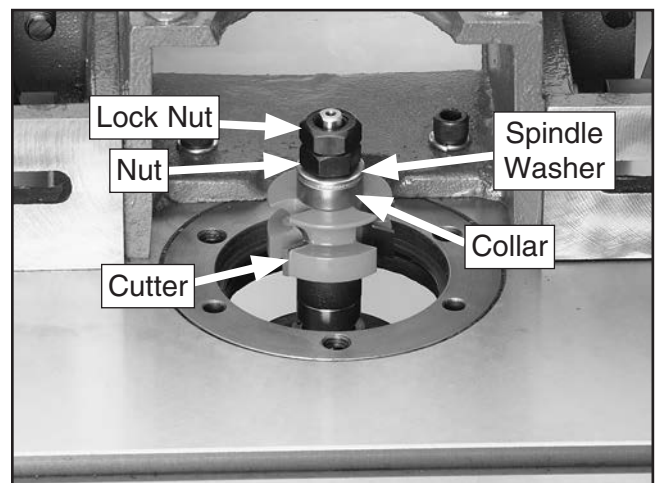

Figure 35. Cutter and fasteners.
6. Place a spindle washer above the cutter and screw on the nut and locknut, as shown in **Figure 35**.